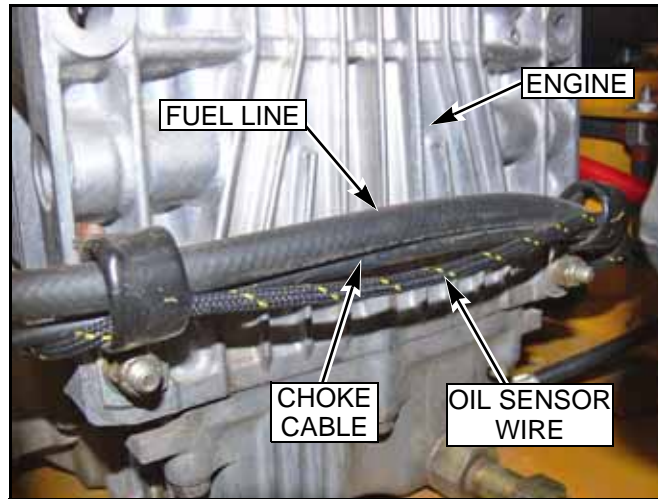

FIG. 1
1. Wire harness and choke cable routing, Fig. 1.